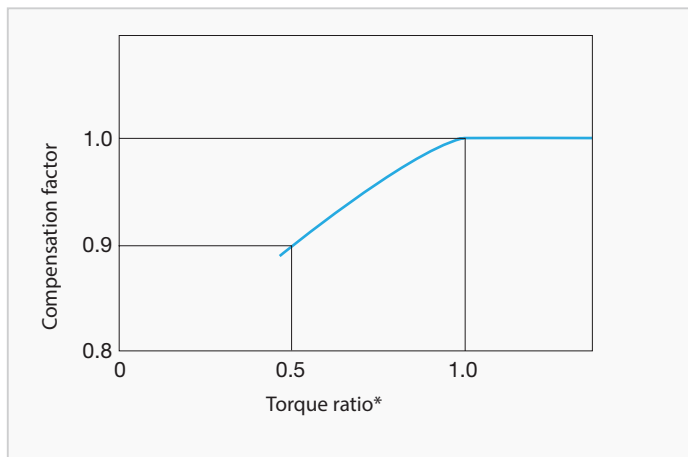

Fig. C-3 Compensation curve for efficiency
1. The efficiency changes if the load torque does not match the nominal torque. Check the compensation factor in the diagram Fig. C-3.
2. When the torque ratio is over 1.0, the compensation factor for efficiency is 1.0 (Diagram Fig. C-3).